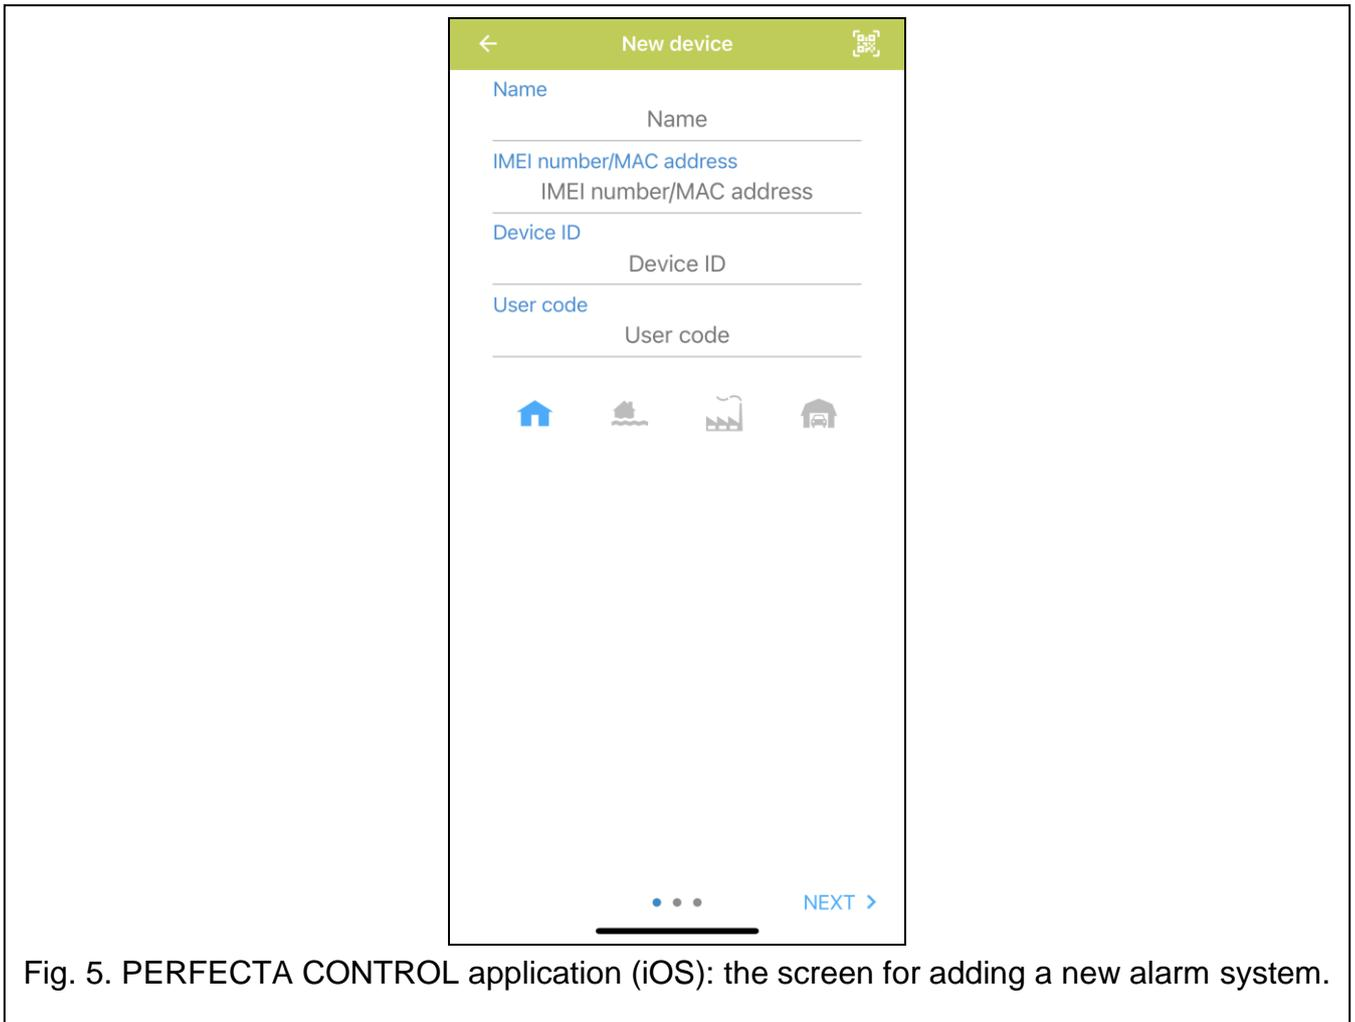

Fig. 5. PERFECTA CONTROL application (iOS): the screen for adding a new alarm system.
4. The screen for adding a new alarm system will be displayed (Fig. 5).